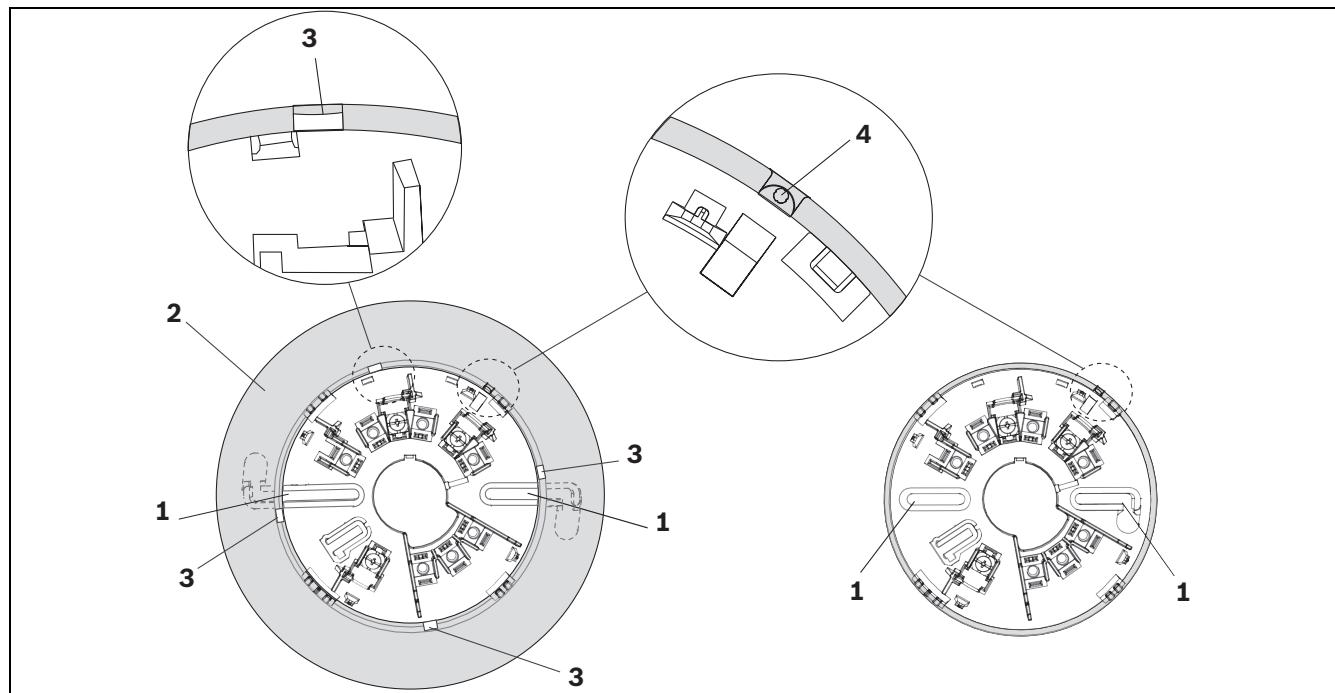

Figure 4.1 6-inch and 4-inch Mounting Bases
1. Mount the base using the two oblong mounting holes (see *Figure 4.1*, Position 1). If you mount the detector with a 6-inch base, first remove the base skirt (2) from the mounting base using a screwdriver to release the 4 tabs (3).
3. Turn clockwise until the detector head locks into place and aligns with the semi-circle notch (4).
Holding a magnet at the test point centered over the semicircle notch on the head (see *Figure 4.1, Page 10, Position 4*) will cause the LED to flash red. If the magnet is held at the indicated location for more than 6 seconds, the unit will send an alarm signal to the panel and the LED will change to steady red until the unit is reset by the panel. If the magnet is removed before the period of 6 seconds is over, the unit will return to the state it was in and no alarm signals will be sent. Otherwise, you have to reset the unit.